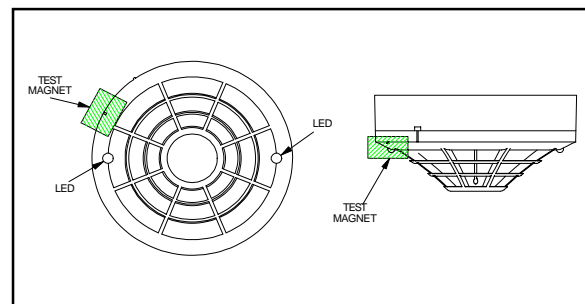

Figure 2. Test Magnet Positioning.
- Test the sensor by positioning the optional test magnet against the sensor body approximately 2 cm from LED in a clockwise direction, as shown in Figure 2.